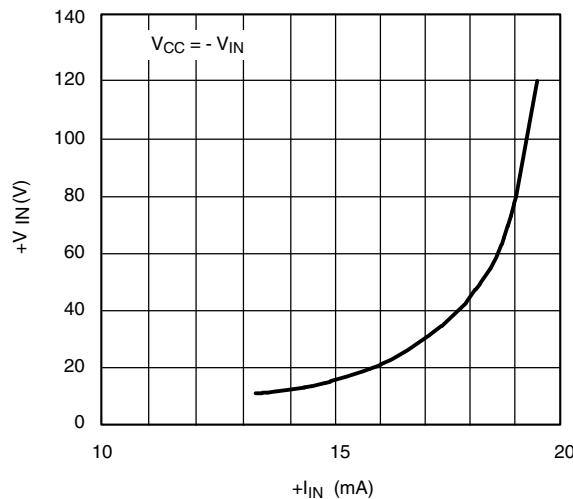

Figure 4. +VIN vs. +IIN at Start-Up
**Note:** During start-up or when VCC drops below 9.4 V the start-up circuit is capable of sourcing up to 20 mA. This may lead to a high level of power dissipation in the IC (for a 48 V input, approximately 1 W). Excessive start-up time caused by external loading of the VCC supply can result in device damage. Figure 4 gives the typical pre-regulator current at start-up as a function of input voltage.